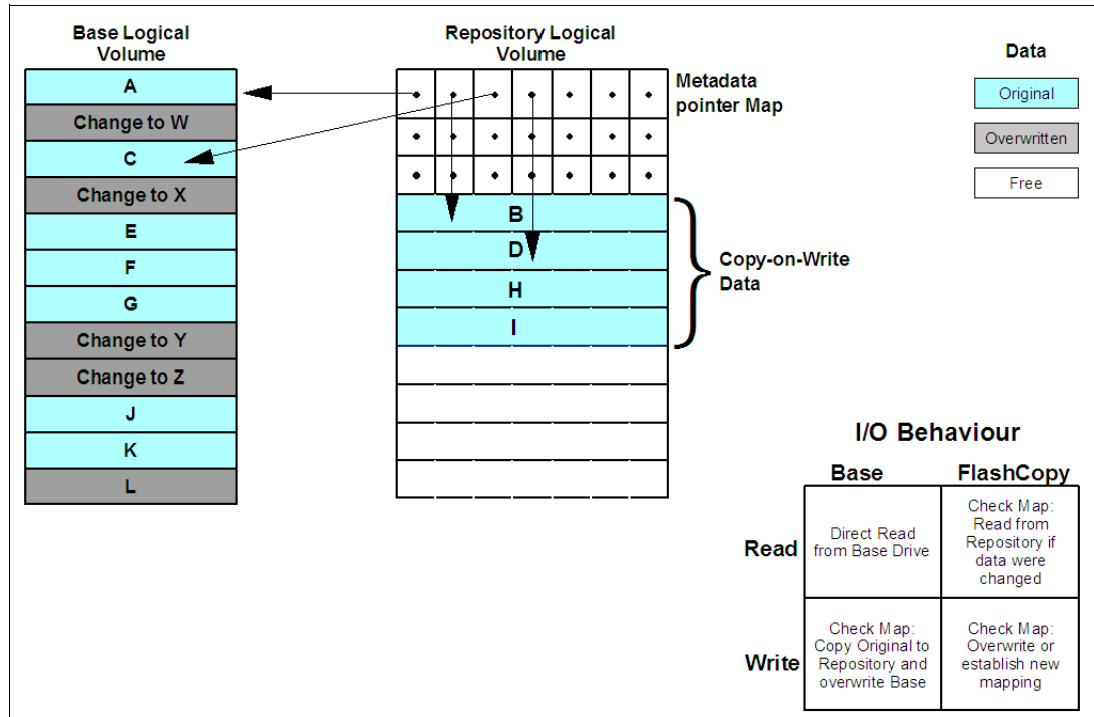

Figure 2-1 FlashCopy read and write schema
While the I/O is stopped, the creation process creates the FlashCopy repository logical drive, where it stores FlashCopy metadata and copy-on-write data (Figure 2-1 on page 15). It will build a metadata database (DB) that contains only pointers. When the controller finishes creating the FlashCopy repository logical drive, production I/O (both read and write) the requests to the base logical drive can resume.